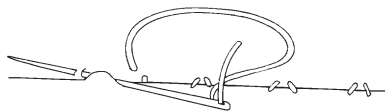

Fig. 13-10
- ❑ **Slipstitch.** Use this technique when the edge is turned and stitched. Using a single thread in the needle, attach the thread to a seam at the hem. Slip the needle through the folded, clean-finished edge. With the same stitch, catch one or two threads in the other layer of fabric. Continue the stitches, always slipping the needle through the fold and then into the outer layer of fabric. (Fig. 13-10)